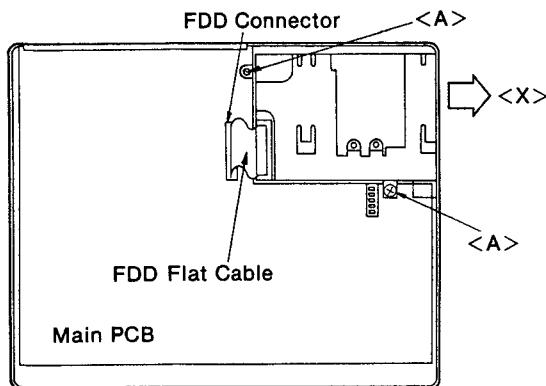

Figure 21
- (1) After removing the HDD, remove two screws <A> ($3\phi \times 6\text{mm}$) as shown in Figure 21.
- (2) While lifting up the FDD slightly, slide it in the direction of <X> as shown in Figure 21.
- (3) Disconnect the FDD flat cable from FDD connector on the main PCB as shown in Figure 21.